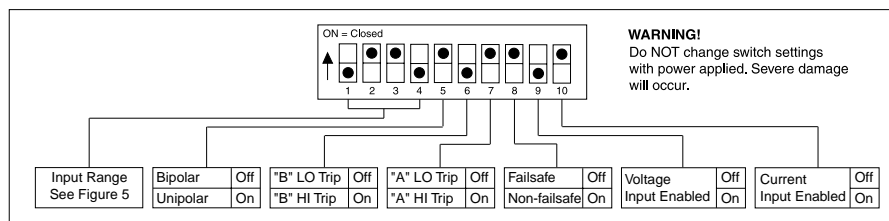

Figure 4: G108 Input Range/Function Selection (SW1) Factory Default Settings
1. With DC power off, set position 9 and 10 of SW1 for current or voltage (see Figure 4).